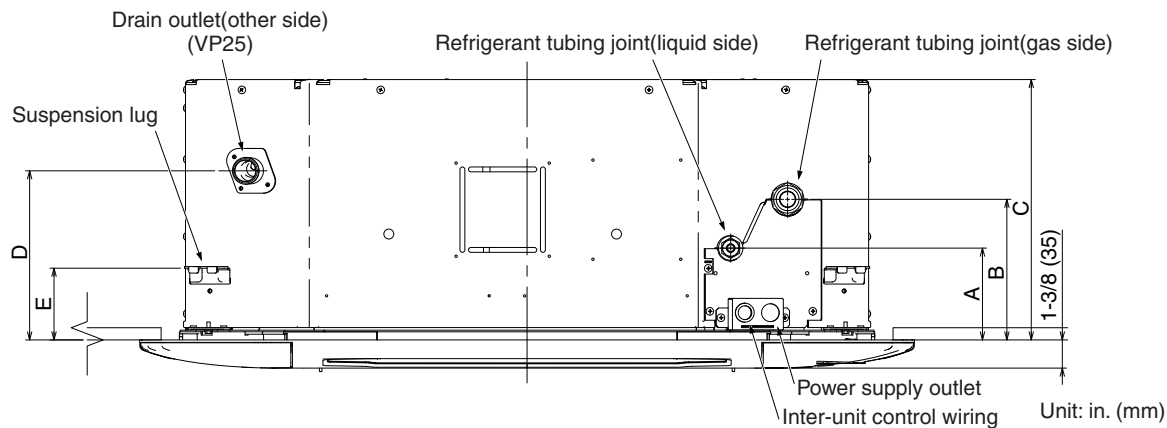

Fig. 3-3
- (3) Determine the pitch of the suspension bolts using the supplied full-scale installation diagram. The diagram and table (Fig. 3-3 and Table 3-2) show the relationship between the positions of the suspension fitting, unit, and panel.